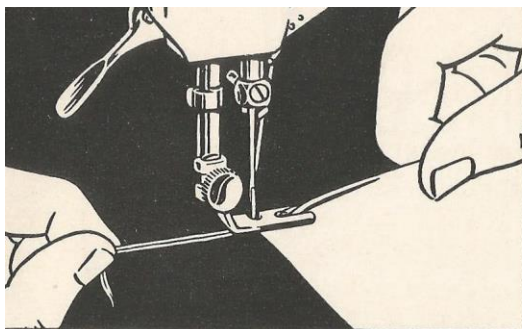

Fig. 34. Starting Hem at Very End of Material
3. Raise hemmer. Pull threads and hem slightly from you with left hand; then while holding threads, draw material toward you with right hand into scroll of hemmer until tacked end is caught in hemmer, as shown in Fig. 34.